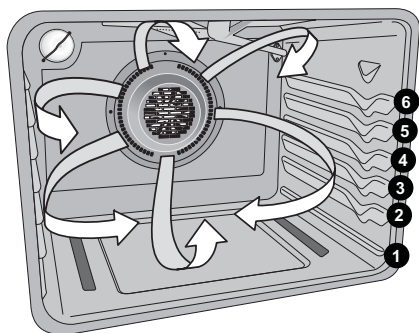

Figure 14: Air movement using convection
- For best results when using a single oven rack, place rack in position 2 or 3 (See Figure 14). When using two oven racks, place in positions 1 and 4. When using three oven racks, place in positions 1, 3, and 6 (use offset rack only in position 6).